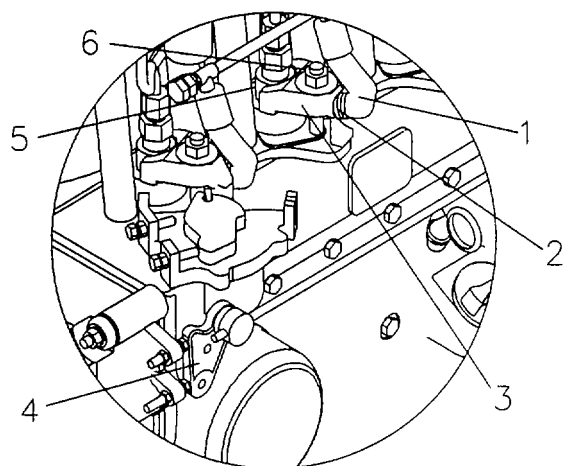
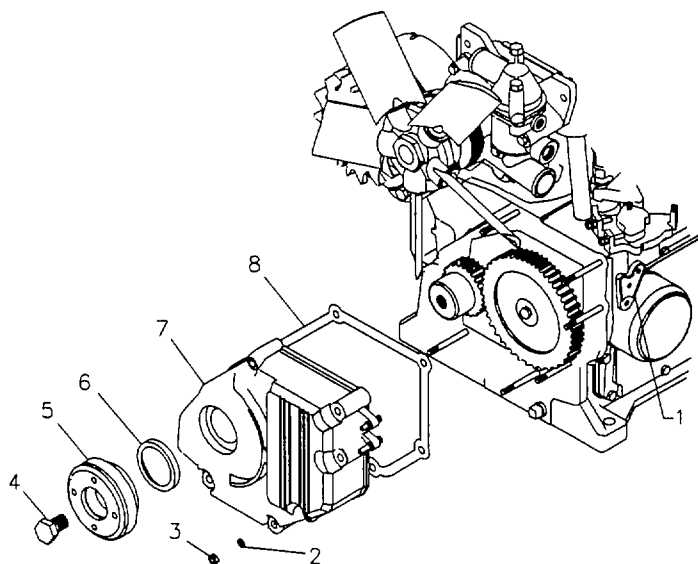
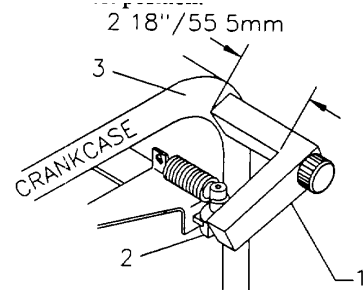

Figure 6-5. Fuel Injector Pump.
Figure 6-7. Gear End Cover
Figure 6-8.
b. Installation. Refer to figure 6-7.
- 3) Make sure that the governor run/stop lever (4, fig. 6-5) is fully rotated counterclockwise to the stop position. Refer to paragraph 6.5.
- 5) Secure fuel pump rack setting gauge (1, fig. 6-8) to the crankcase end face (3, fig. 6-8). Clamp the pump rack (2, fig. 6-8) with the end protruding 2.18 inches/55.5 mm from the crankcase end face (3, fig. 6-8).
- 6) Install the correct original shim pack on the fuel injector pump (5, fig. 6-5).
- 7) Insert the injector fuel pump (5, fig. 6-5) and shims gently into the crankcase making sure that the fuel injector pump pin engages in the slot in the fuel pump rack (2, fig. 6-8).
- 8) Carefully turn the injector fuel pump counterclockwise until the fuel pump rack (2, fig. 6-8) is felt against the stop (1, fig. 6-8) and, while holding it in this position, install the clamp and nut (3 and 6, fig. 6-5). The beveled face of the nut (6, fig. 6-5) faces down towards the clamp (3, fig. 6-5). Take care to ensure the fuel injector pump (5, fig. 6-5) does not move.
- 9) Torque the nut (6, fig. 6-5) to 25.0 ft. lb.
- 10) Rotate fuel line clamp (2, fig. 6-5) and install fuel line (1, fig. 6-5).
- 11) Remove the rack setting gauge (1, fig. 6-8) from the crankcase end face (3, fig. 6-8) and install the gear end cover (7, fig. 6-7), gear end oil seal (6, fig. 6-7) and gasket (8, fig. 6-7) using the gear end oil seal tool to prevent damage to the oil seal.
- 12) Install the crankshaft pulley, (3, fig. 6-7) and secure with bolt (4, fig. 6-7) using the flywheel locking tool to hold the flywheel. Torque to 221 ft. lb. Remove flywheel locking tool.